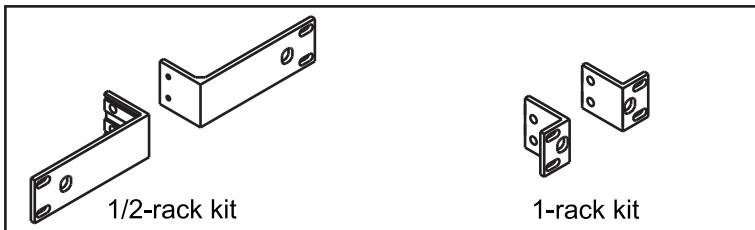

Fig. 5
2. Rack mount kit (optional). Fig. 5